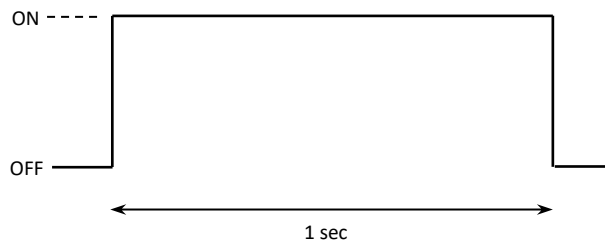

Figure 1-5: The GREEN and RED LED Pattern After a Successful POST
- a. If the POST passes, **GREEN** and **RED** are switched ON for 1 second, as shown in Figure 1-5. After this, the Tracker will begin the join procedure as indicated by the LED pattern explained in step 3.